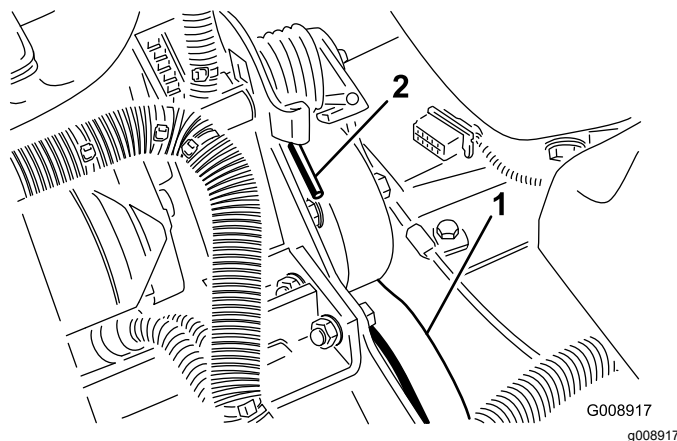

Figure 72
2. Push down and forward on the spring end (Figure 72) to unhook it from the bracket and release tension on the spring.